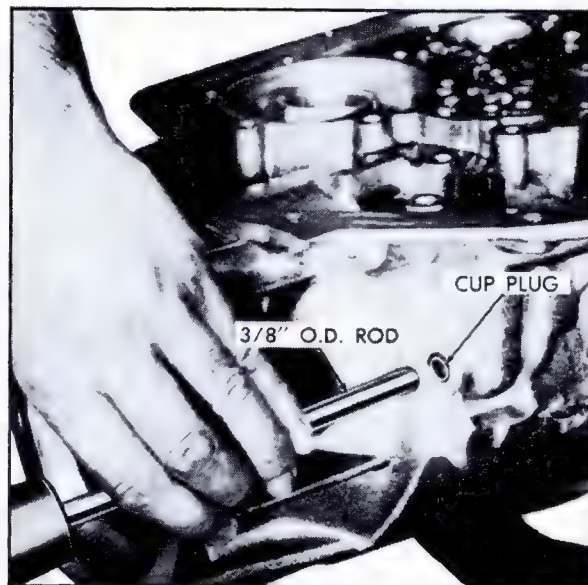

Fig. 7-107 Installing Cup Plug
3. Install parking pawl shaft cup plug by driving into the transmission case, using a 3/8 inch diameter rod, until the parking pawl shaft bottoms on the case rib, Fig. 7-107.